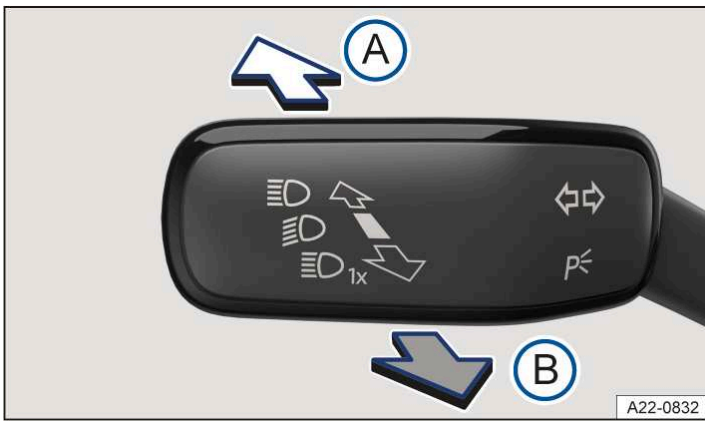

Fig. 1 On the left-hand side of the steering column: turn signal and main beam lever.
3. Tap the lever forward from the basic position → **Fig. 1 A**.
- Or:** if Dynamic Light Assist is switched on and active, pull the lever back → **Fig. 1 B**.
- Or:** if Dynamic Light Assist is switched on and not active, tap the lever forward → **Fig. 1 A**. Manual main beam is now switched on. To switch off the manual main beam again, pull back the lever.